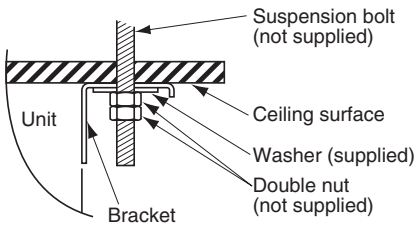

Fig. 3-14
- (6) Carry out the preparation for suspending the indoor unit. The suspension method varies depending on whether there is a suspended ceiling or not. (Figs. 3-14 and 3-15)
- (7) Suspend the indoor unit as follows:
- a) Install the bracket to the suspension bolt. Stick it onto the ceiling surface. (Fig. 3-14~3-16)